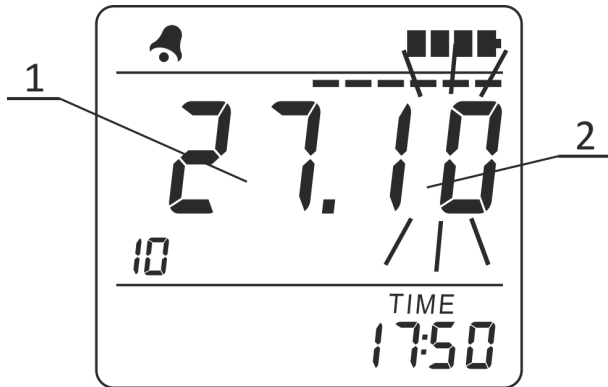

Figure 22 – LCD of the radiometer
A short press of the MODE button fixes a new value of year in the radiometer's memory. The new value of year blinks three times on the LCD of the radiometer to show that it has been fixed. The date (1) and month (2) are then displayed on the LCD (Figure 22). When the month digits are blinking, it means that their values can be programmed. They are programmed with the help of the THRESHOLD button in a similar way to the minute digits programming.